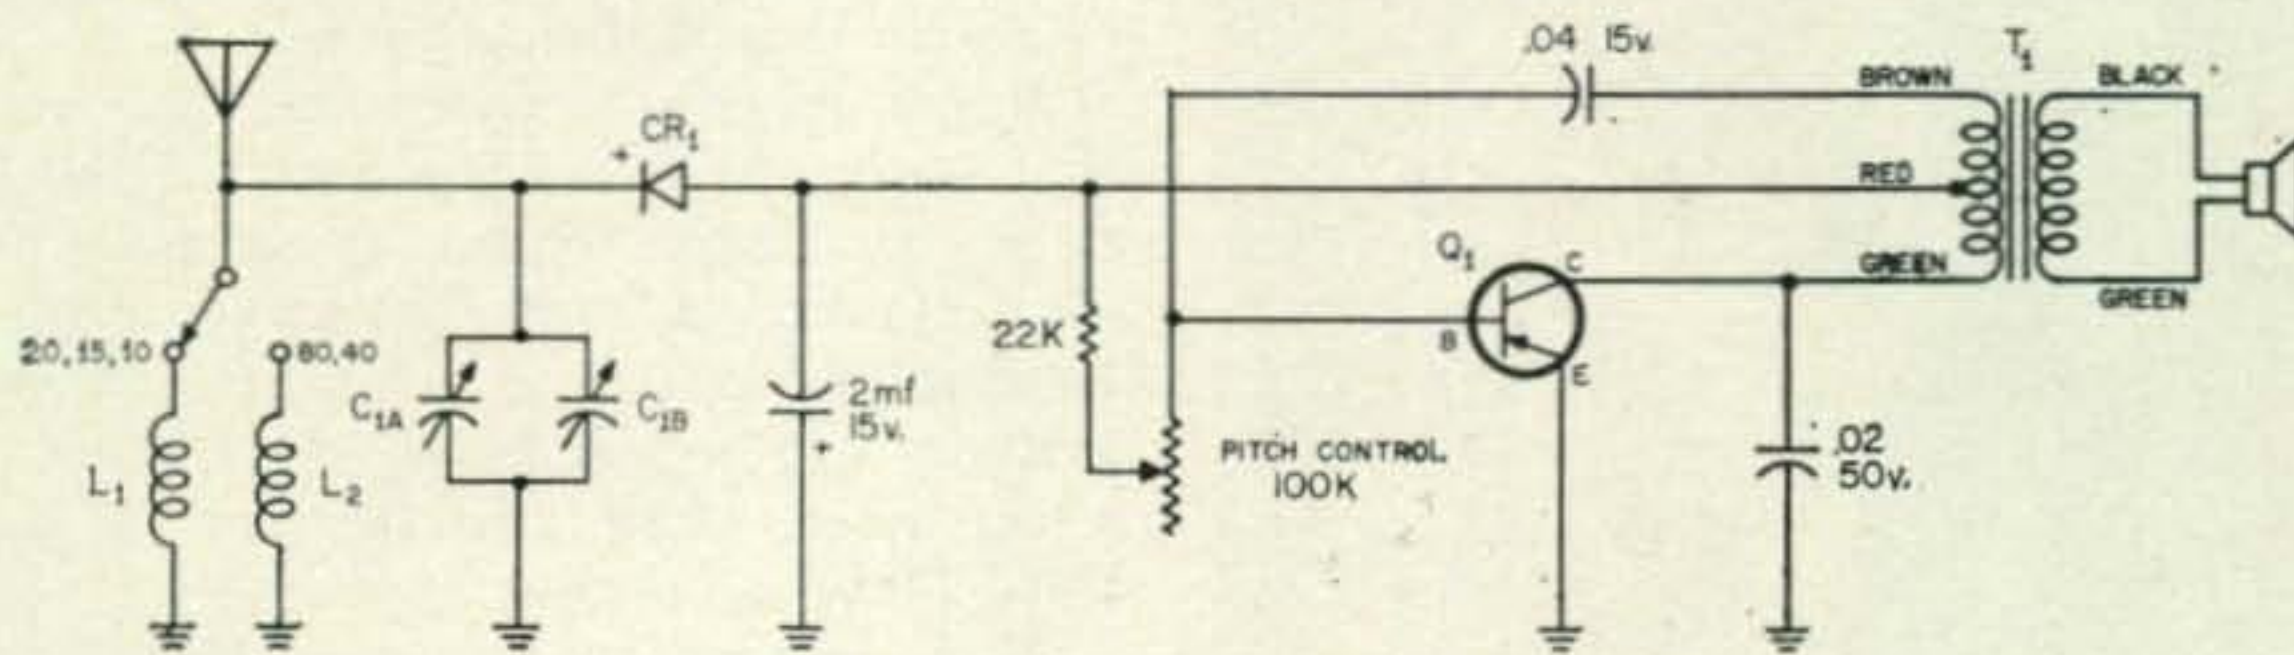

Fig. 1—Circuit of a self powered c.w. monitor. Most of the components, speaker included, are salvaged from an old transistor radio.
I did and the circuit is shown in fig. 1. Most of the parts were scrounged from a defunct transistorized radio. Capacitor C_1 is the tuning capacitor with both sections paralleled. There are no numbers on the transistor; they were rubbed off long ago, but it is a p.n.p. type. I can't decipher the code on the diode either so any type you have will probably do.
Fig. 1 — Construction details for the 423 mc parametric amplifier. View (A) shows the idler circuit dimensions and the mounting of the MA460A diode. View (B) shows the cross section of the 432 mc signal circuit. View (C) shows both the idler and signal circuits secured to the cover plate from the 5" X 2 1/4" X 2 1/4" box.
Again referring to the circuit layout diagram of fig. 1, the diode connects to the 432 mc tuned circuit through a ceramic 6 mmf tubular capacitor with leads long enough to series resonate it to 432 mc. This was done by first connecting the two capacitor leads together and "grid dipping" it to 432 mc. The total lead length including capacitor turned out to be $1\frac{1}{4}$ inches. This capacitor connects to the idler circuit near the diode, over to the 432 mc flat plate line at a point $1\frac{1}{4}$ " from the grounded end. The 432 circuit is a flat line 1 inch wide made of fairly heavy sheet copper bent to be up $\frac{1}{2}$ " from the aluminum box with the top length of $3\frac{5}{8}$ inches to the 432 mc tuning capacitor. The grounded end was a $\frac{1}{2}$ inch lip clamped to the aluminum box with three machine screws. The original piece of copper for this 432 circuit was $1 \times 4\frac{3}{8}$ inches of about $\frac{1}{16}$ inch thickness, bent with rigid right angle bends to form a $\frac{1}{2}$ inch wide mounting lip and a $\frac{1}{2}$ " rise to the top $3\frac{5}{8}$ inch section. Either a ceramic or plastic adjustable 1 to 10 mmf capacitor is soldered to this line at the free end for tuning the circuit to 432 mc. A $\frac{1}{2}$ inch ceramic insulator holds this line rigid to the box at a point about $1\frac{1}{2}$ inches back from the tuning capacitor.